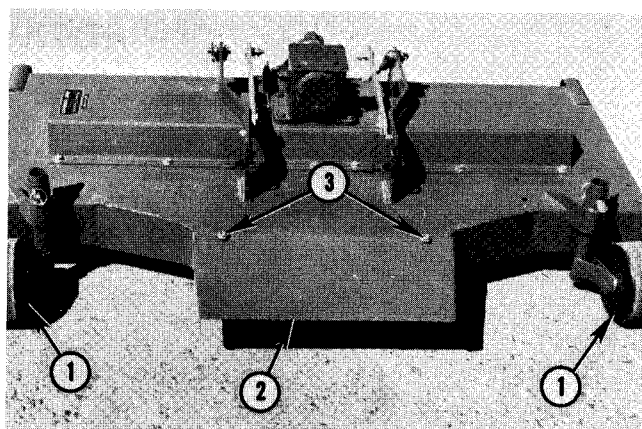

Fig. 51 — Gauge Wheels and Deflector Chute
4. Install gauge wheels as shown in Fig. 51.
5. Install side or rear deflector chute with bolt heads down, Fig. 51.